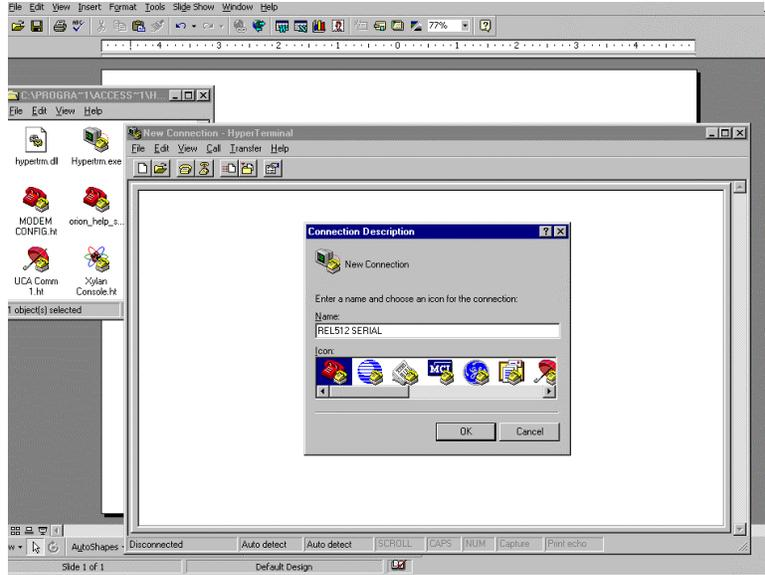

Figure 35. Hyperterminal Setup Screen
2. Select the icon labeled Hyperterminal.exe. The screen illustrated in Figure 35 should be visible. The operator will be prompted for a name as illustrated.